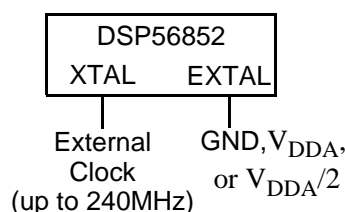

Figure 9. Connecting a High Speed External Clock Signal using XTAL
The recommended method of connecting an external clock is given in Figure 9. The external clock source is connected to XTAL and the EXTAL pin is held at ground (recommended), V_{DDA} , or $V_{DDA}/2$. The TOD_SEL bit in CGM must be set to 1.
1. See Figure 9 for details on using the recommended connection of an external clock driver.